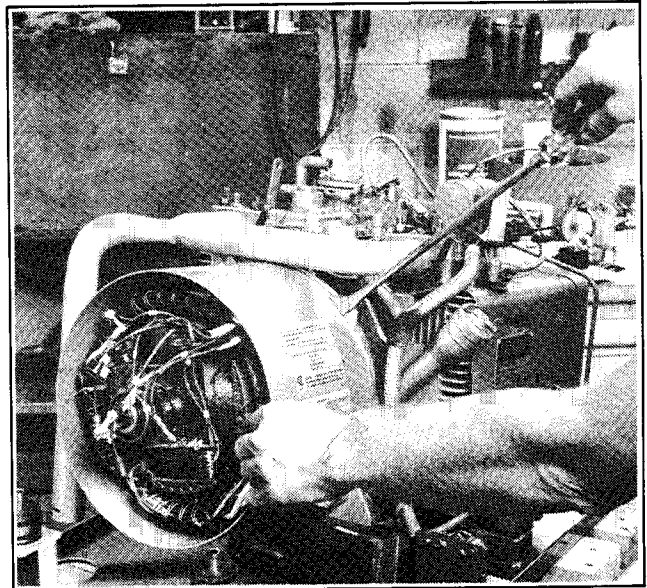

Figure 8-11. Prying Stator from Adapter
10. Use a pry bar or large screwdriver to loosen stator from generator adapter, see Figure 8-11. Be careful not to damage rotor while removing stator. Note position of stator leads before removing stator.